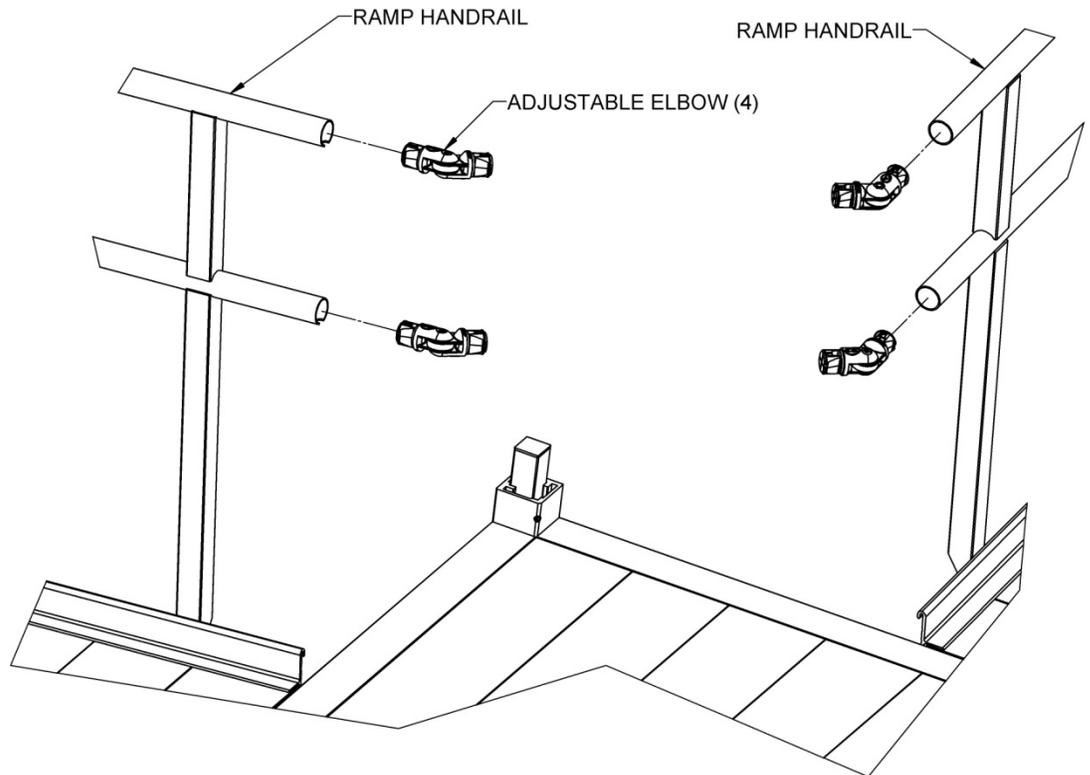

FIG. 6.1
6.1.1. Slide an adjustable elbow into each handrail tube (FIG. 6.1).